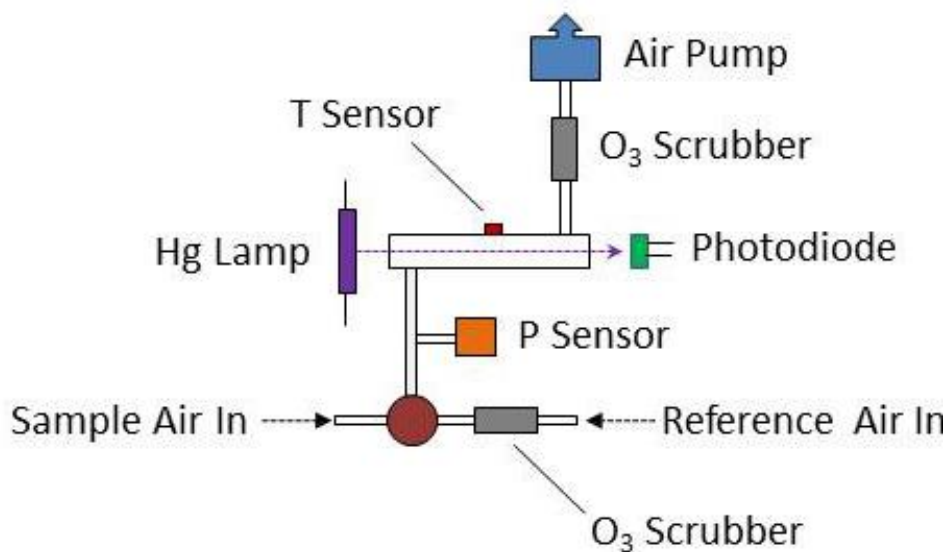

Figure 1.1. Schematic Diagram of the Ozone Monitor.
Figure 1.1 is a schematic diagram of the Ozone Monitor. Ozone is measured based on the attenuation of light passing through a 6-cm absorption cell fitted with quartz windows. A low-pressure mercury lamp is located on one side of the absorption cell, and a photodiode is located on the opposite side of the absorption cell. The photodiode has a built-in interference filter centered on 254 nm, the principal wavelength of light emitted by the mercury lamp. An air pump draws sample air into the instrument at a flow rate of approximately 1 L/min. A solenoid valve switches so as to alternately send this air directly into the absorption cell or through an ozone scrubber and then into the absorption cell. The intensity of light at the photodiode is measured in air that has passed through the ozone scrubber (I_o) and air that has not passed through the scrubber (I). The ozone concentration is calculated from the measurements of I_o and I according to the Beer-Lambert Law:
Not shown on Figure 1.1 is the DewLine™, which serves to make the humidity entering the detection cell identical during I and I_o measurements. Please see our website for a technical discussion of the DewLine™ and its importance to ozone measurements: <https://www.twobtech.com/dewline.html>. Briefly, water vapor adsorbed to the inner wall of the detection cell changes the reflectivity of the cell. If humidity is not the same during I and I_o measurements, an offset in the ozone measurement will occur and can be up to several tens of ppb for sudden changes in ambient humidity. The offset will change with time as the internal ozone scrubber equilibrates with water vapor. Even for fixed-site ozone monitors, an offset measurement error will occur if the instrument is zeroed with dry tank air and then used to measure ozone in humid air. The DewLine™ solution to this often-ignored problem is unique to 2B Tech instruments.